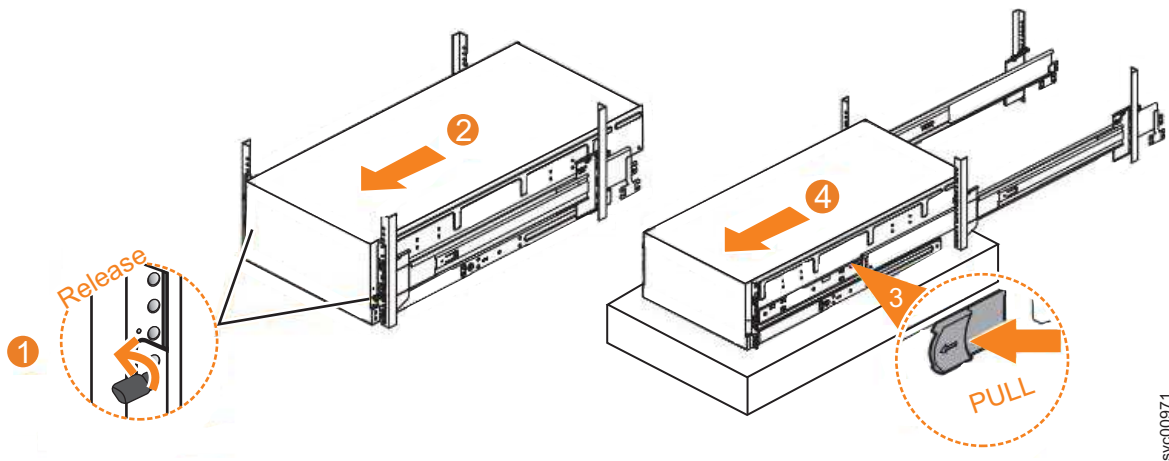

Figure 77. Removing the 2077-92F enclosure from the rack
1. Loosen the locking thumb screws (**1**) on the front of the enclosure, as shown in Figure 77.
2. Carefully slide the enclosure forward out of the rack (**2**), as shown in Figure 77.
3. Locate the left and right blue release tabs near the front of the enclosure. Pull both release tabs forward to unlock the drawer mechanism (**3** in Figure 77).
4. Slide the enclosure and inner rail member out of the rack (**4** in Figure 77).